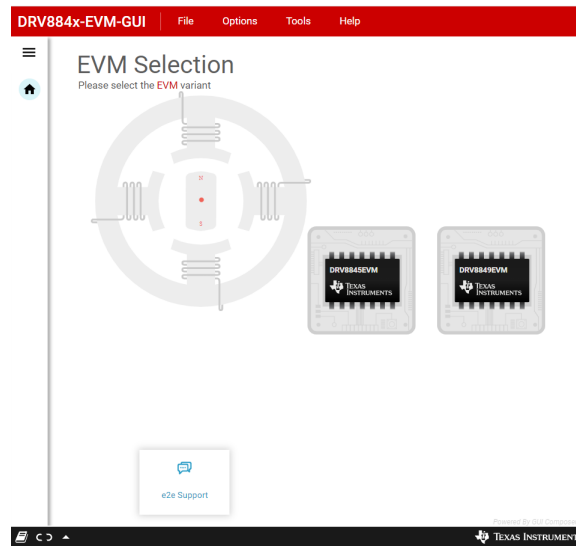

Figure 7-1. DRV884x-EVM GUI Home Screen
2. Select the desired EVM type from the screen referenced in the Figure 7-1 below